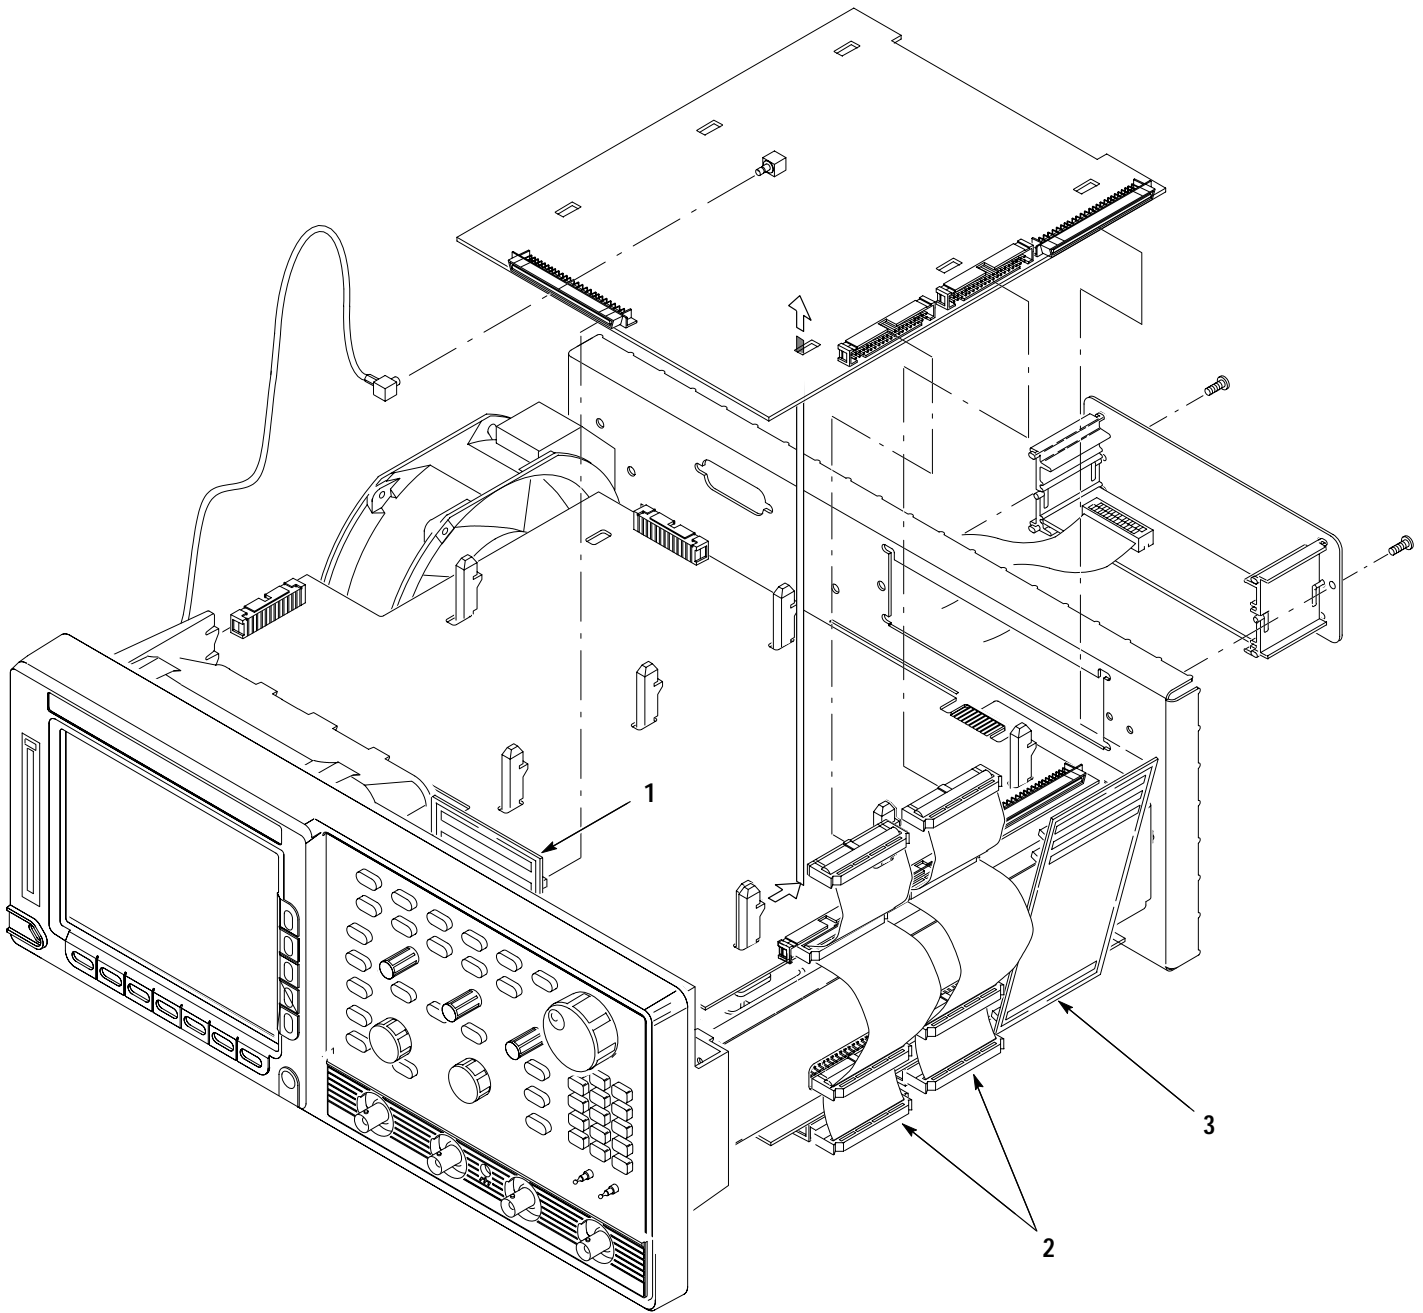

Figure 2-6: Circuit Board Removal
6. Disconnect the two power cable connectors (the analog-power and digital-power interconnect cables) from the video board connector and from the processor-display circuit board connector (see number 2 on Figure 2-6).
7. Remove (or pull loose) the A14 D1 Bus board and the A27 Connector board (see numbers 1 and 3 on Figure 2-6).
- 9. Slide back and lift up the Video Trigger circuit board (see Figure 2-6).
Also, when plugging in the digital bus boards, 1 and 3 in figure 2-6, make sure that they remain plugged in on both ends.